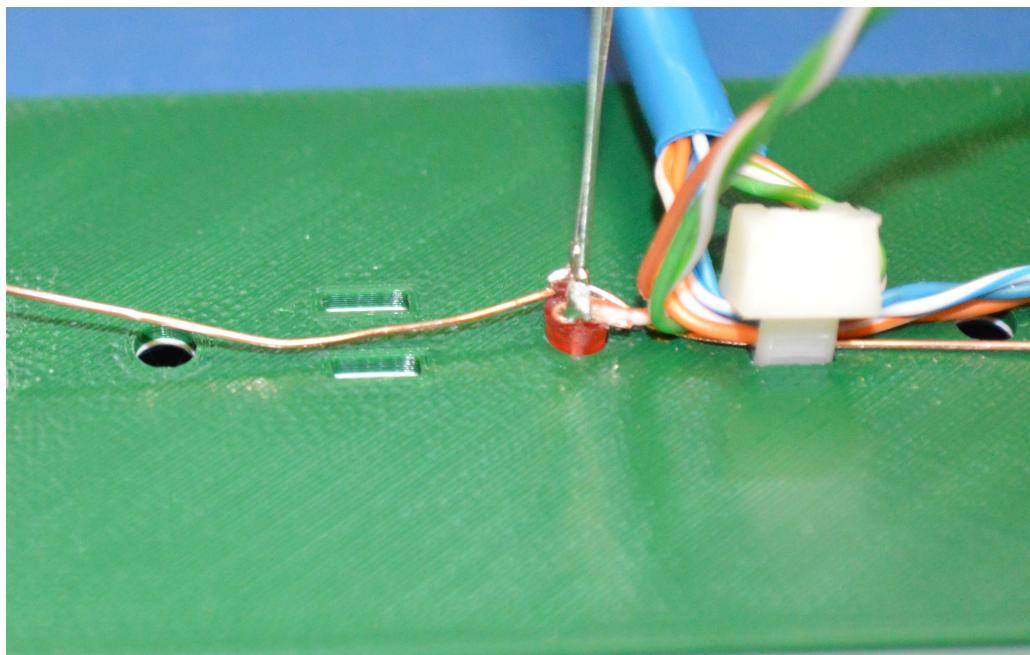

Figure 2.15: Solder the First LED
- Solder the first LED to one side of the cable. This one is the hardest as there is only a short length of wire to work with. See Figure 2.15.